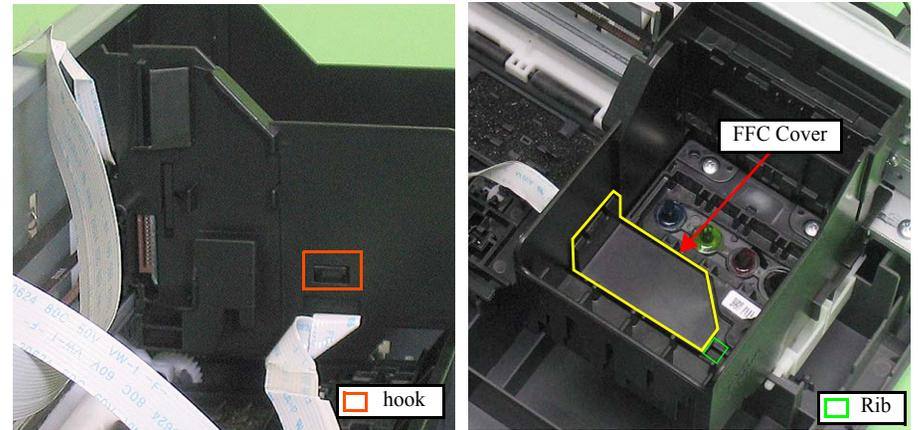

Figure 4-31. Removing the Printhead (5)
- When installing the FFC Cover, insert its rib to the hole of the CR Unit and secure it with the hook. (See Fig.4-31.)